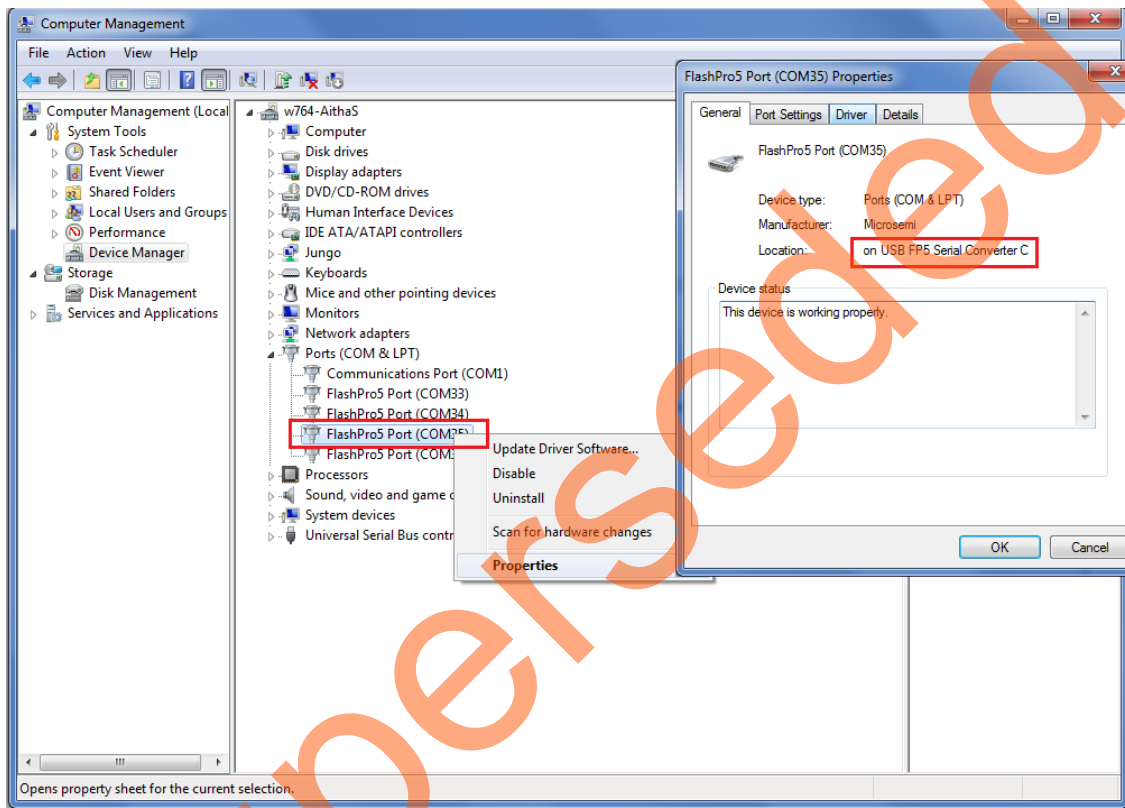

Figure 8 • Device Manager Window
2. From the detected four COM ports, select the one which location on its Properties window must be as on **USB FP5 Serial Converter C**. Make a note of the COM port number for serial port configuration and ensure that the COM port Location is specified as on **USB FP5 Serial Converter C**, as shown in Figure 8.